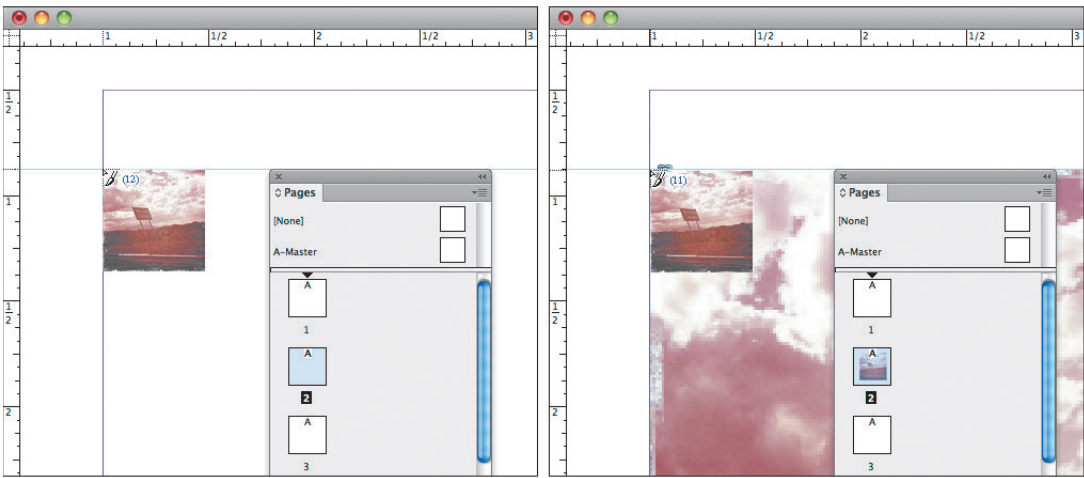

FIGURE 17.11 Add the first image to page 2.
8. You'll see a loaded cursor in InDesign. The cursor now holds all 12 image files. Place the cursor at the intersection of the top guide and left margin on page 2 and click once (FIGURE 17.11). The first image loads on the page, and the cursor still holds the remaining 11 images.